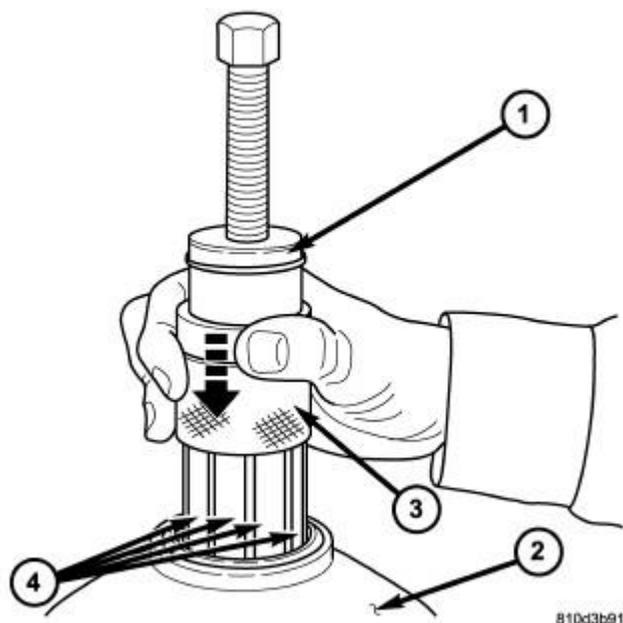

Fig. 98: Slide Remover 9082A Collar Downward
- Slide the collar (3) on the Bearing Remover (special tool #9082A, Remover, Bearing) (1) downward over the fingers of the tool. Refer to **Fig. 98**.